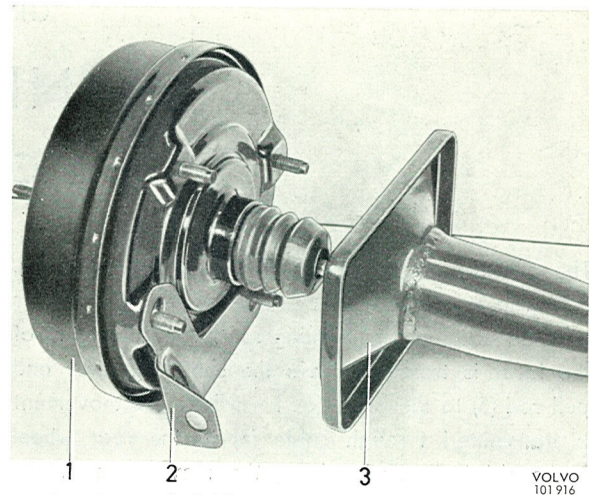

Fig. 5-78. Fitting the brackets
2. Fit the brackets on the servo cylinder, see Fig. 5-78. The attaching nuts should not be tightened until the brackets have been fitted in the vehicle.